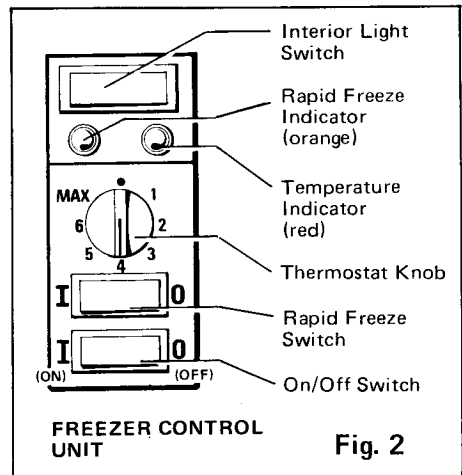

Fig. 2
### Freezer (see fig. 2)
### Indicator Lights and Rapid Freeze Switch (see fig. 2)
- b) Is the freezer on/off switch (fig. 2) set at 'I' (ON)?
When fresh food is to be frozen, depress the rapid freeze switch to 'I' (ON) — see fig. 2, an hour or two before the food is ready to be placed in the freezer. The orange light will glow as a reminder that the rapid freeze switch is in use.